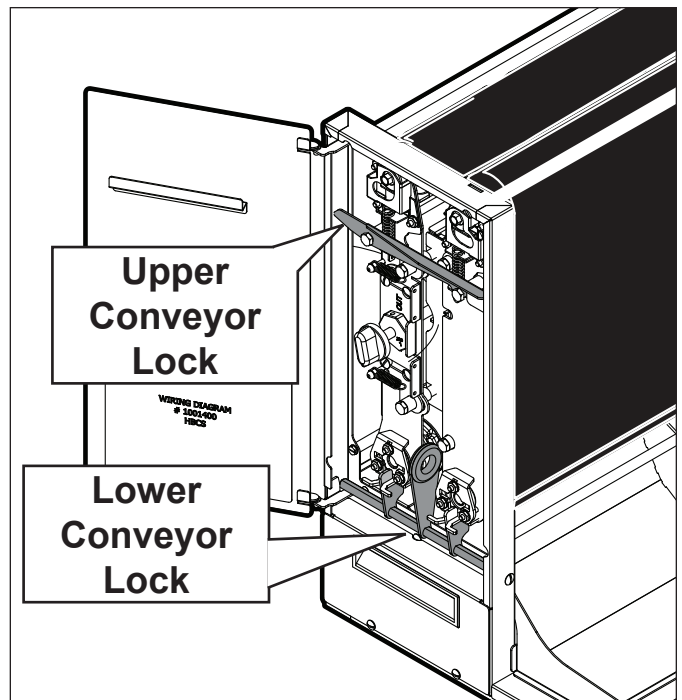

Figure 11. Conveyor Locks
7. Slowly lift up the Lower Belt Frame Lock so the Front and Rear Belt Rollers lock into place (Figure 11). If necessary, lift up the cam shaft of the Rear Belt Roller while lifting the Lower Belt Frame Lock into place.
8. Re-engage the Upper Belt Frame Lock by lifting up and then locking it in place on the Front Conveyor Assembly (Figure 11).